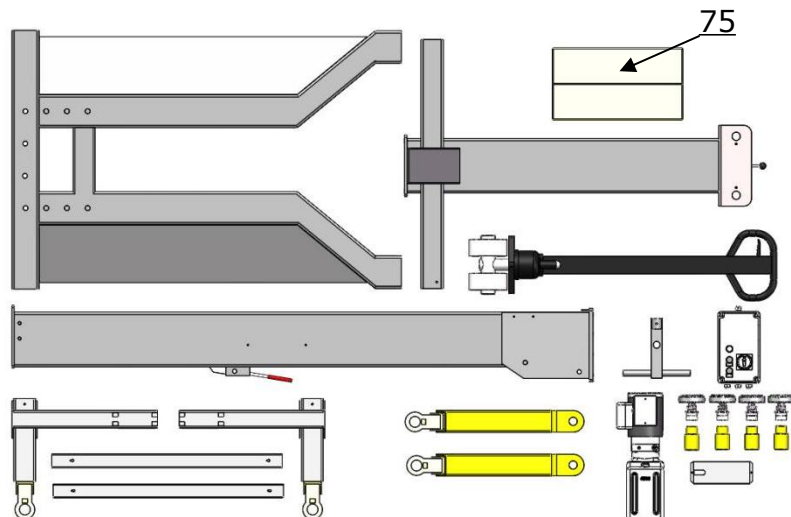

Fig.7
3. Move aside all the parts and check according to the shipment parts list (See Fig.7)